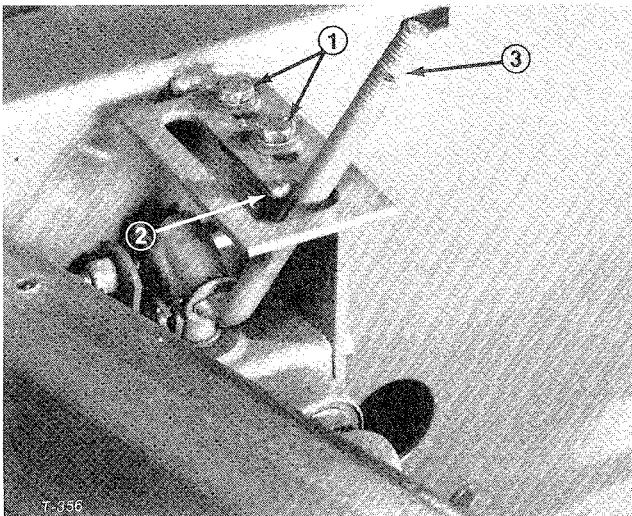

Figure 62
3. Loosen two capscrews on top of the lift lever latch (Fig. 62). Place lever on rounded tip of latch (Fig. 62), and slide latch w/lever forward until stopping resistance is felt. Then tighten the capscrews to lock the latch in place. Check for free operation of the lift lever by moving lever from RAISE or TRANSPORT to FLOAT position. Lift lever should just clear rounded portion of latch as lever is moved into FLOAT position.